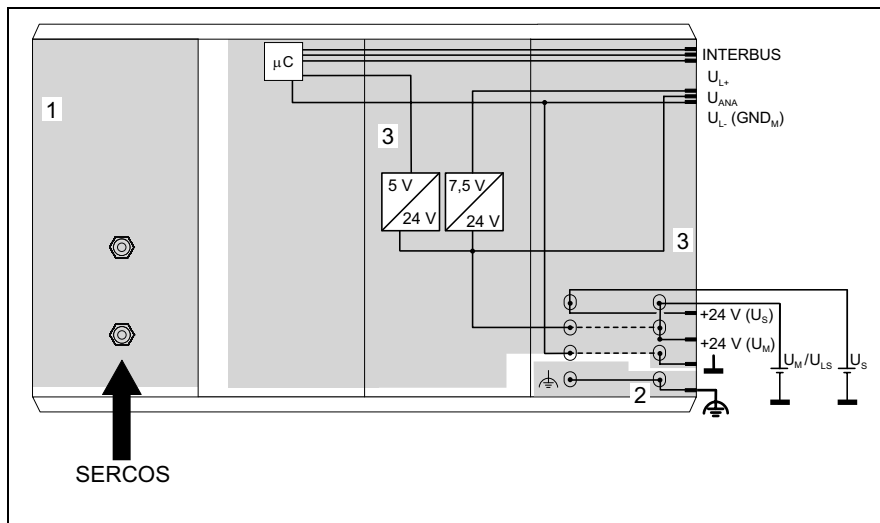

Fig. 4-20: Electrical isolation in the bus coupler (two supply voltages)
Note: The feeder connector R-IB SCN-PWR IN-CP links connector 1.2 (U_{LS}) to 2.2 (U_M), connector 1.3 (LGND) to 2.3 (PGND) and connector 1.4 (FE) to 2.4 (FE) (see dashed line in Fig. 4-20).